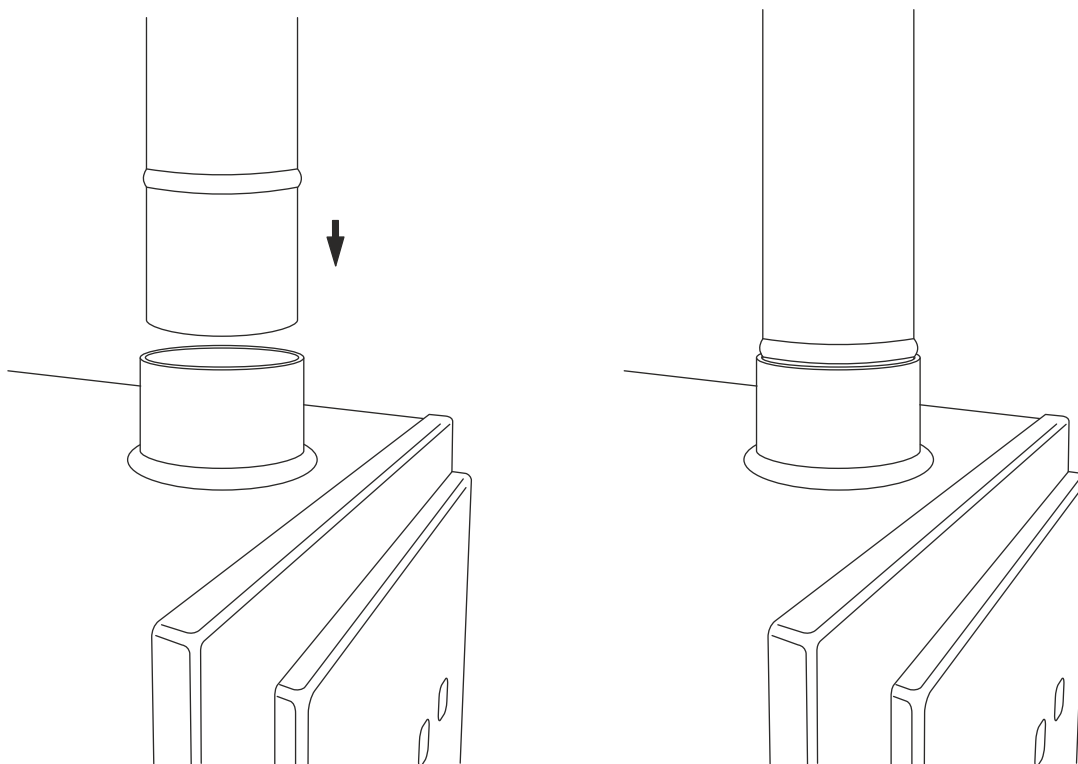

Fig. 7
- Install a chimney on the external heater. (The chimney consists of two parts that must be connected). See Figures 7 and 8.